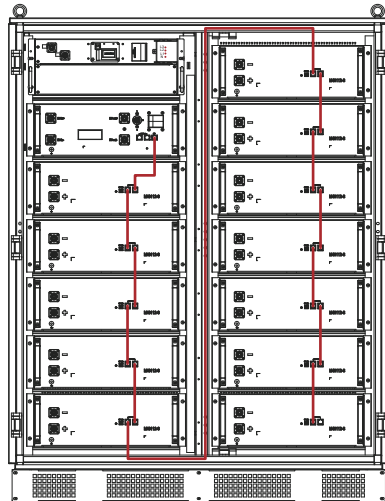

Figure 4-9 Battery side communication cables connection
C. Connect the first battery to HV900112 (LMU Port) by using the communication cables from system parts list. Please see Figure 4-9.